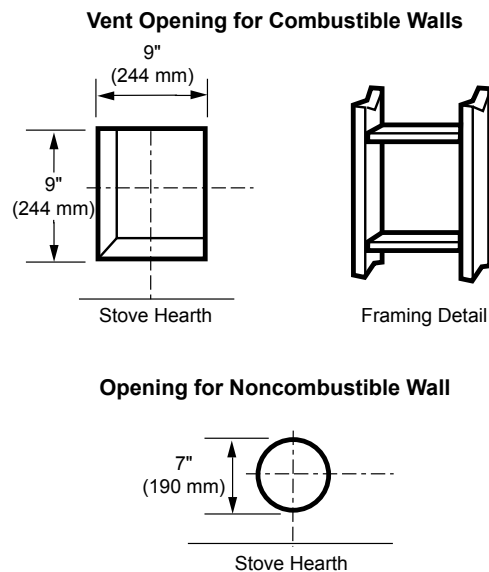

Fig. 30 Locate Vent Opening on Wall
1. Locate vent opening on the wall. It may be necessary to first position the stove and measure to obtain hole location. Depending on whether the wall is combustible or noncombustible, cut opening to size. Figure 30 (For combustible walls first frame in opening.)
Combustible Walls: Cut a 9" H x 9" W (244 x 244 mm) hole through the exterior wall and frame as shown. Figure 30